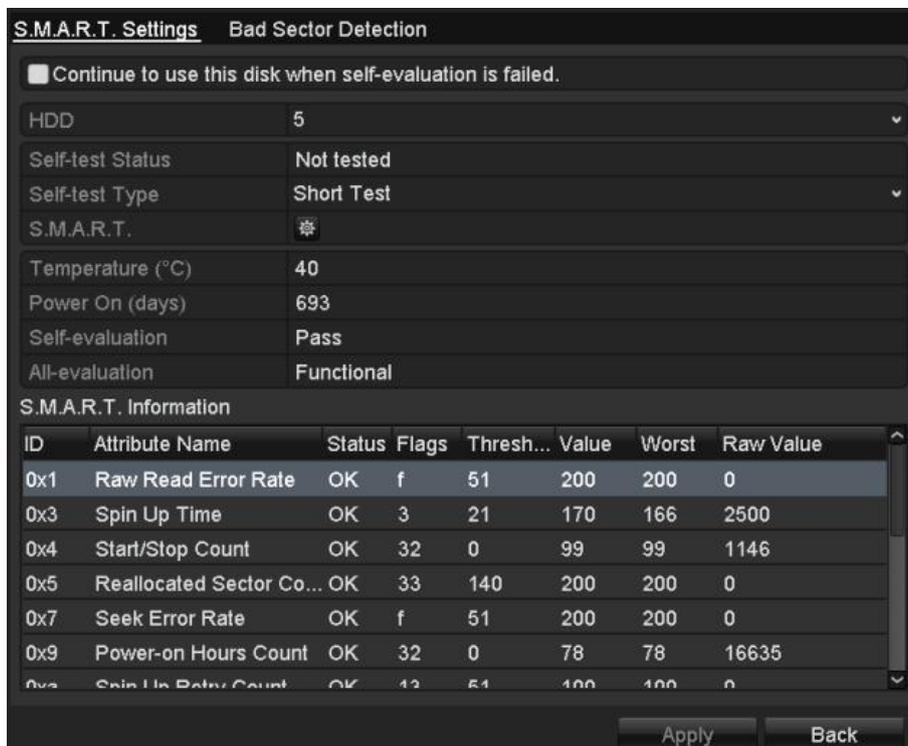

Figure 12-24 S.M.A.R.T Settings Interface
Step 2 Select the HDD to view its S.M.A.R.T information list, as shown in Figure 12-24.